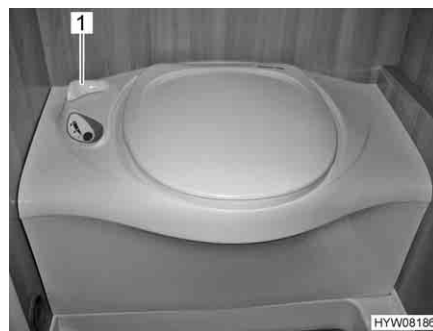

Fig. 201 Thetford toilet
- Before flushing open the sliding trap of the Thetford toilet. To do this, turn the slide lever (Fig. 201,1) in an anticlockwise direction.
- After flushing close the sliding trap. To do this turn the slide lever (Fig. 201,1) in a clockwise direction.